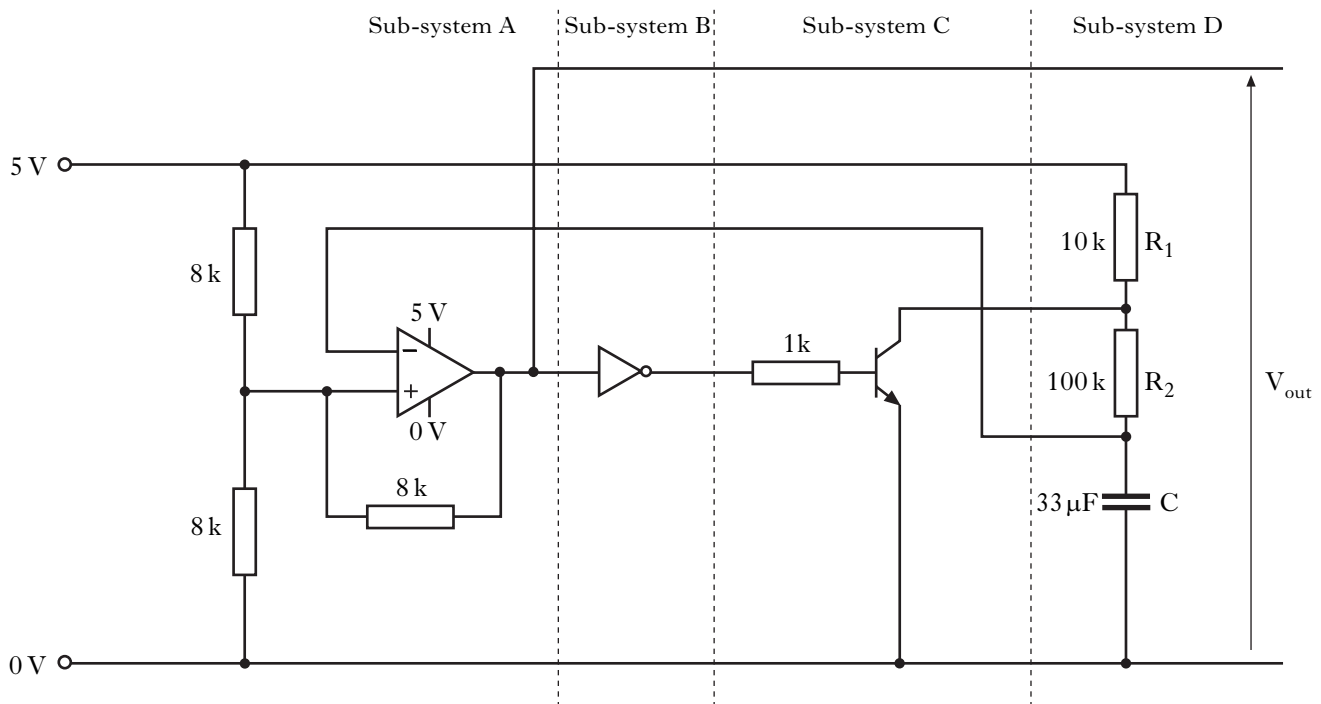

Figure Q1
1. The circuit diagram of an astable device is shown in Figure Q1.
Sub-system A shown in Figure Q1 is a Schmitt trigger.